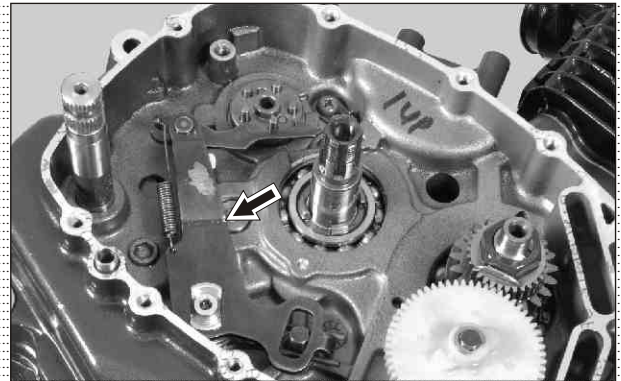

Fig. 3.59
- Remove shaft complete gear shift by pulling outside. (Fig. 3.59)